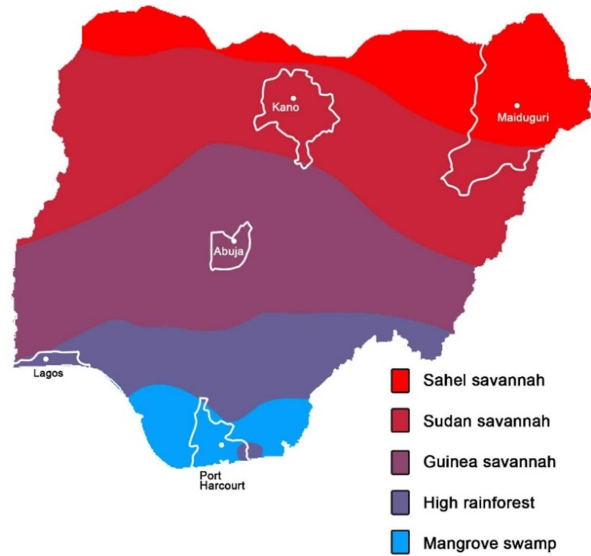

Figure 1.6: Climatic regions in Nigeria
- The peak sun hours for a particular location identify the total amount of solar resource available at a particular location in one day assuming a value of 1-sun. In Nigeria, the PSH can easily be classified based on the different climatic regions shown in Figure 1.6.